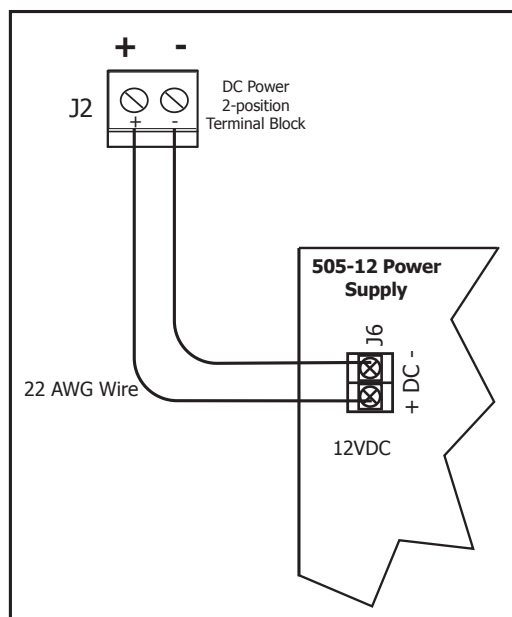

Figure 5: Power Supply Connection
3. Using 22 AWG wire, connect the J2 terminal block to the J6 terminal on the 505-12 power supply PCB. See Figure 5.